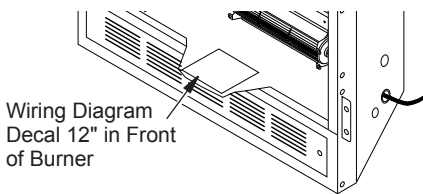

Figure 27 - Location of Wiring Diagram Decal (Model May Vary from Illustration)
10. Peel off backing paper and stick supplied wiring diagram decal on firebox bottom approximately 12" in front of blower (see Figure 27).
11. Peel off backing paper and stick supplied wiring diagram decal on firebox bottom approximately 12" in front of blower (see Figure 27, page 19).